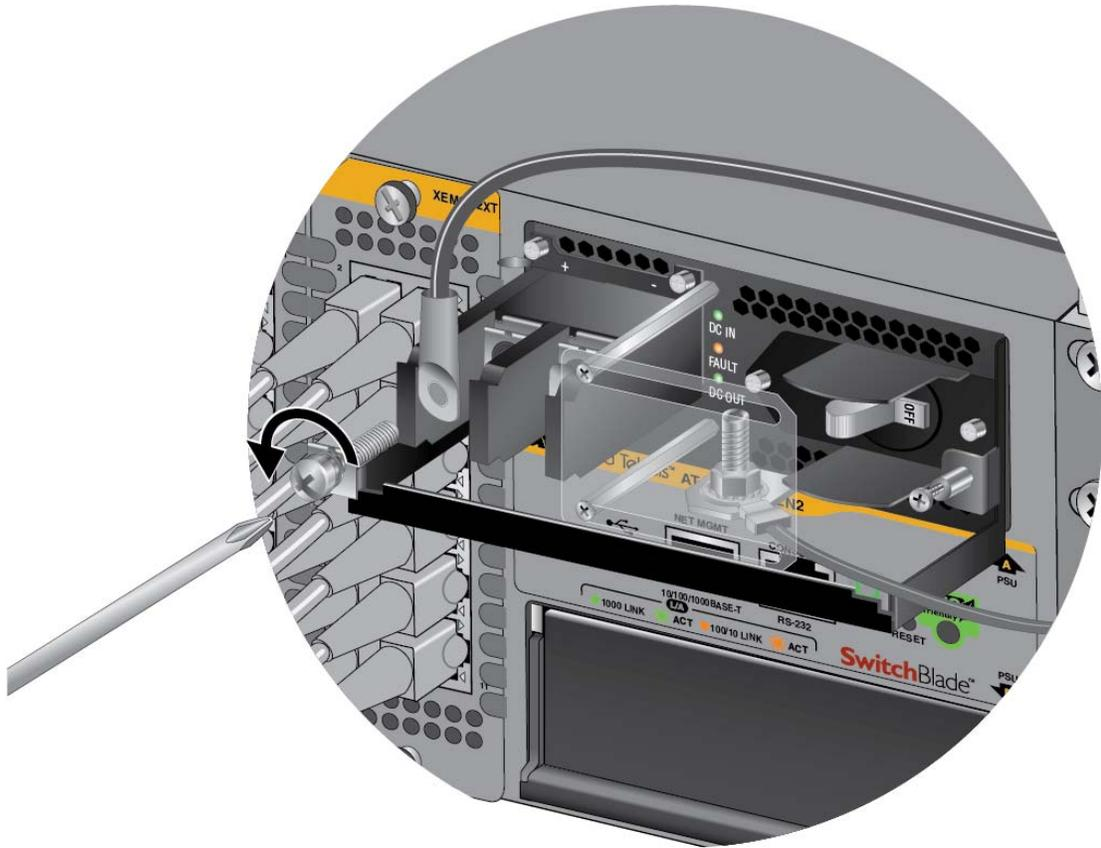

Figure 115. Removing the Positive Lead Wire from the Terminal Block
6. Use a #3 screwdriver to remove the positive (+) lead wire from the terminal block. Refer to Figure 115 on page 194.